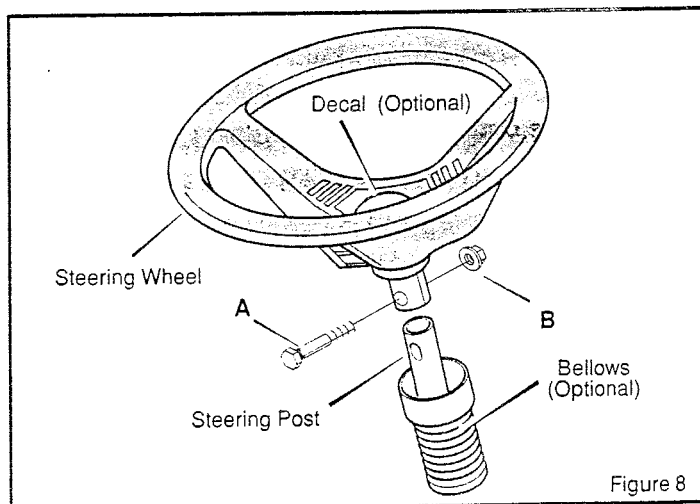

Figure 8
2. Some models have an *optional bellows*. Slide the **bellows** over the **steering post**. Make sure the **collar** of the **bellows** is on top (Figure 8).